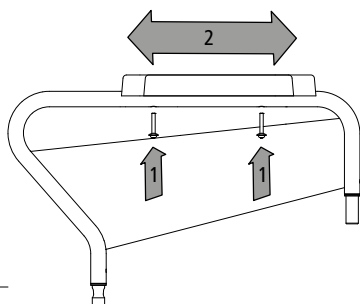

Fig. 32
1. Loosen the screws that secure the armrest to the frame (1, Fig. 32).
2. The armrests can then be moved 30 mm backwards or forwards. (2, Fig. 32).